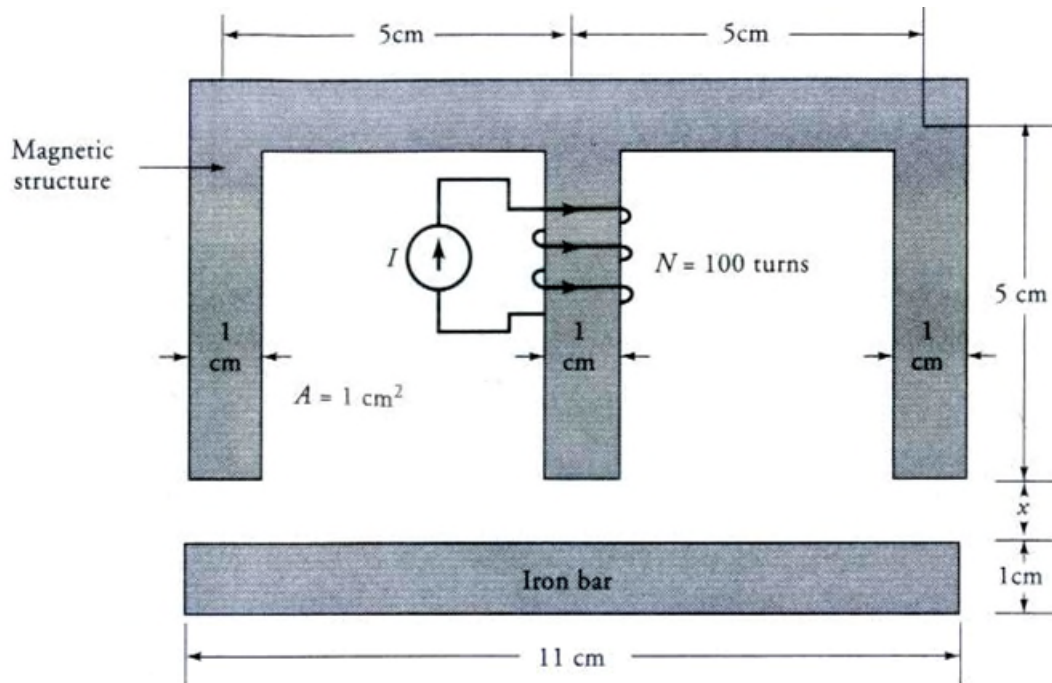

Figure 2
4. The magnetic circuit, as shown in Figure 2 is excited by a 100-turn coil wound over the central limb. Determine the current in the coil that is necessary to keep the movable part suspended at a distance of 1 cm. What is the energy stored in the system? The relative permeability and the density of the magnetic material are 2000 and 7.85 g/cm^3 respectively. The acceleration due to gravity $g = 9.81 \text{ m/s}^2$.